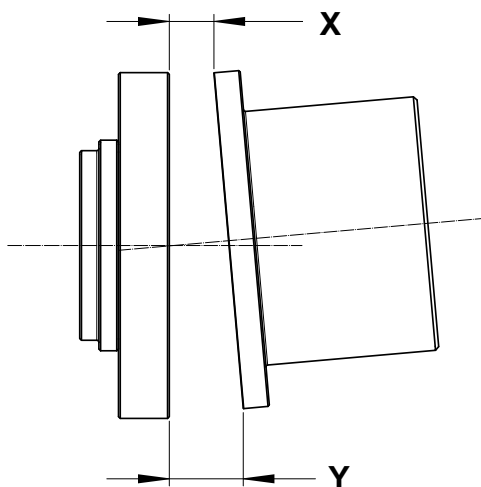
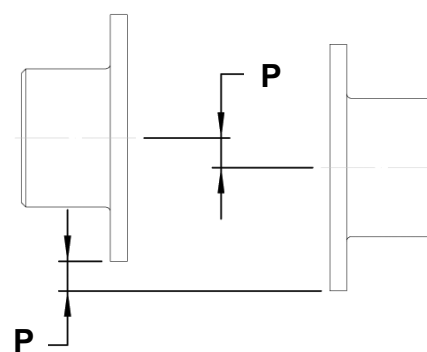

Figure 8 - Angular Misalignment
Figure 9 - Parallel Misalignment
Table 3 shows installation limits for Angular and Parallel alignment. The Angular Alignment Total Indicator Reading value is the maximum difference between the measurements (X-Y) taken between opposite sides of the center spool flange and adapter flange as shown in Figure 8. The Parallel Alignment value “P” is the offset between the centers of the hubs, as shown in Figure 9. If parallel offset is measured by rotating the hubs with a dial indicator on the outside diameter, the total indicated reading should be divided by (2) to calculate “P”.